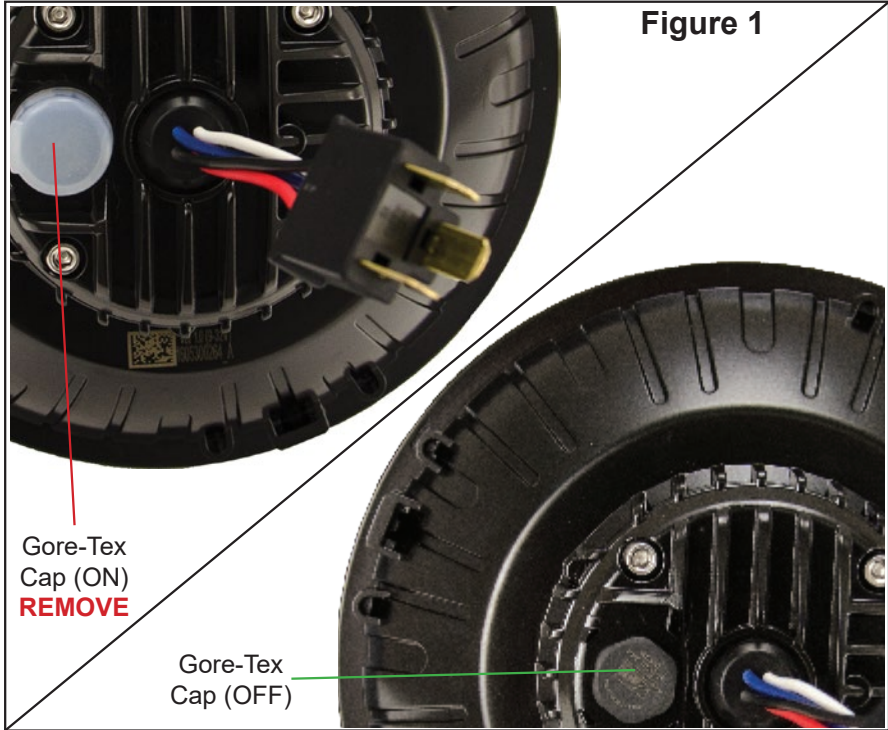

Figure 1
3. Remove Gore-Tex Valve Cover, prior to installation see [Figure 1]